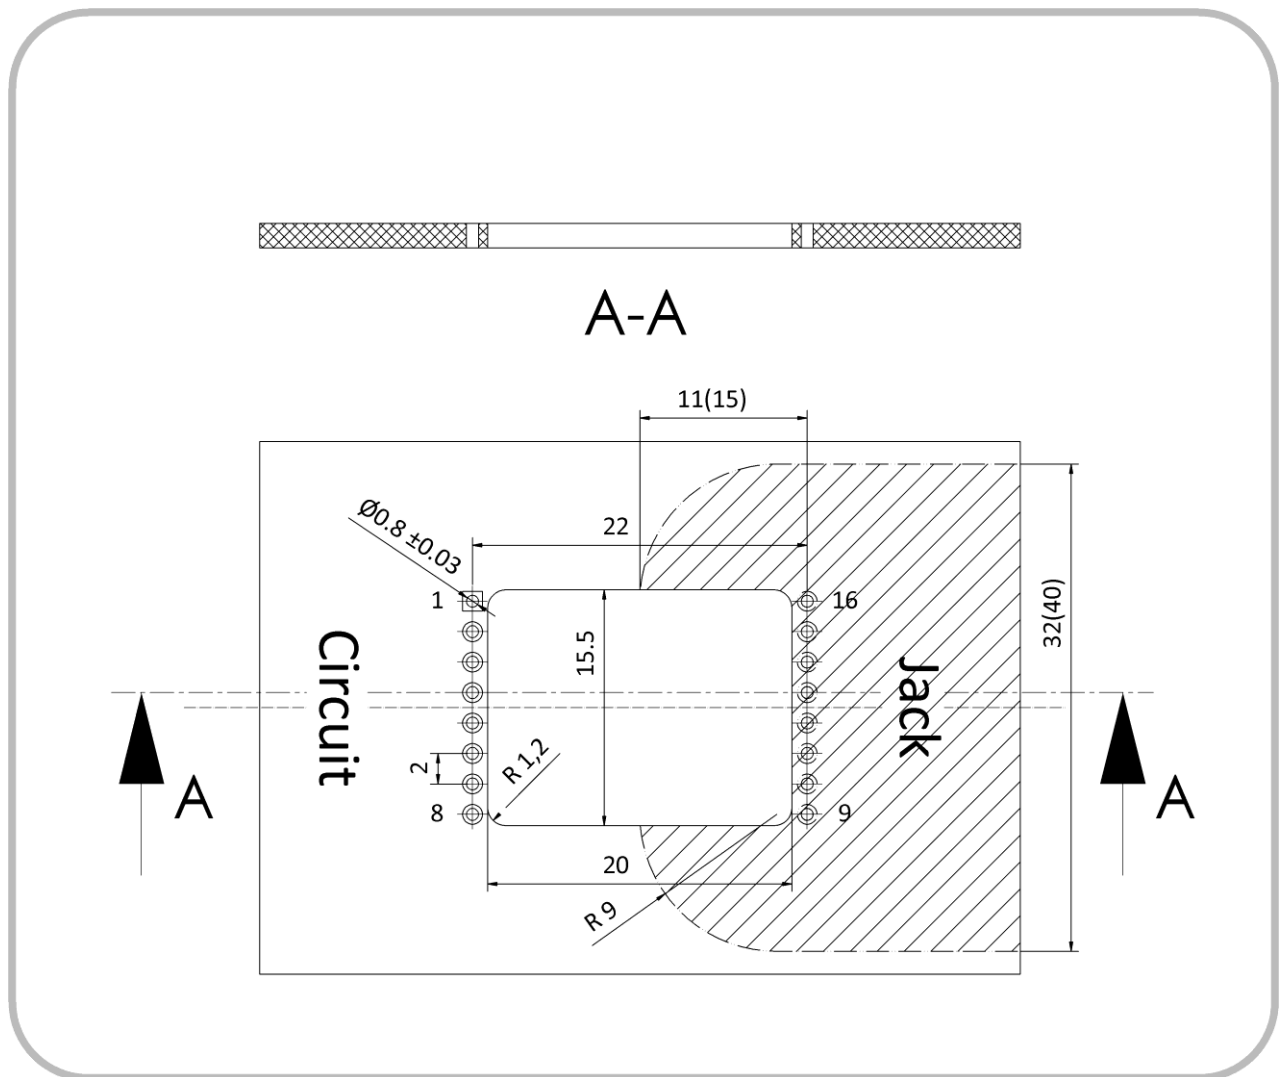

Figure 6. Suggested PCB layout for the EN-100L.
The dimensions of the hatched area are based upon requirements for realising two means of patient protection (MOPP) for medical electrical (ME) devices. For such ME applications, those with operating voltages of up to 250 V AC require the dimensions indicated in Figure 6 to be met or exceeded, and those with operating voltages of up to 400 V AC require the dimensions indicated in parentheses in Figure 6 to be met or exceeded.